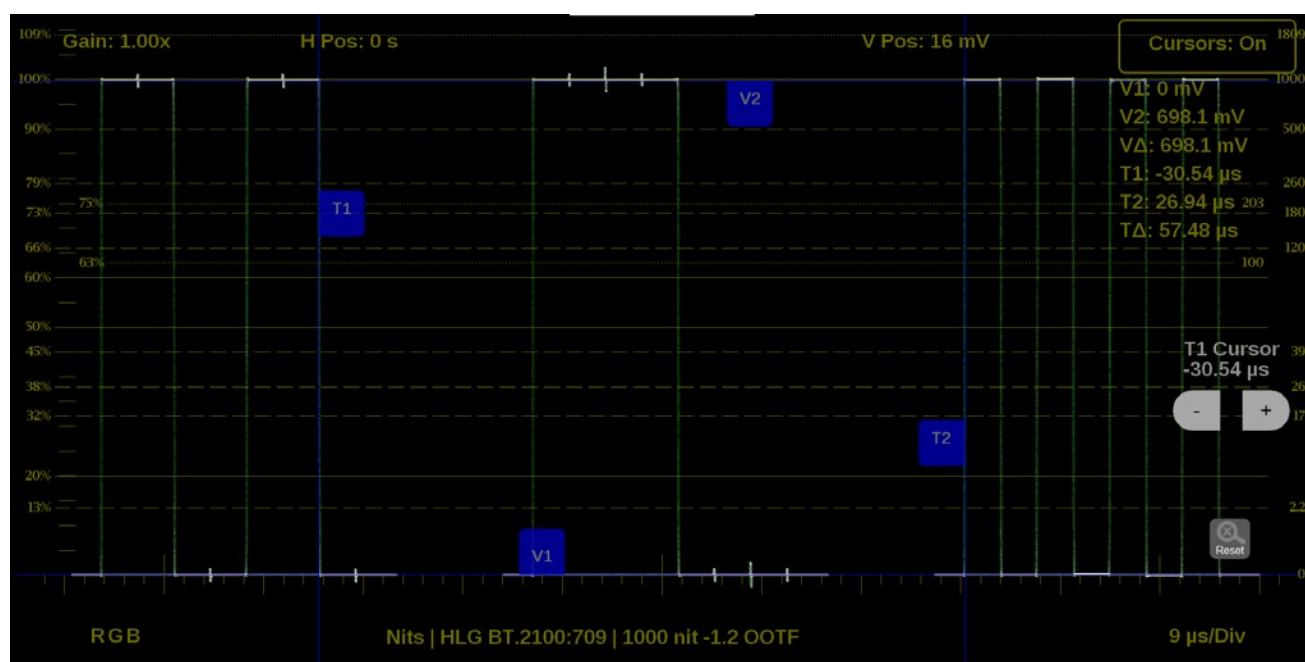

Figure 91: Waveform on-screen tools – time and voltage cursor values and deltas
1. Select the **Cursors** button to show the time and voltage cursor options. (See Figure 91.)
6. Use the **V Units** button to change the voltage units between percentage (%), millivolts (mv), or code value (CV).